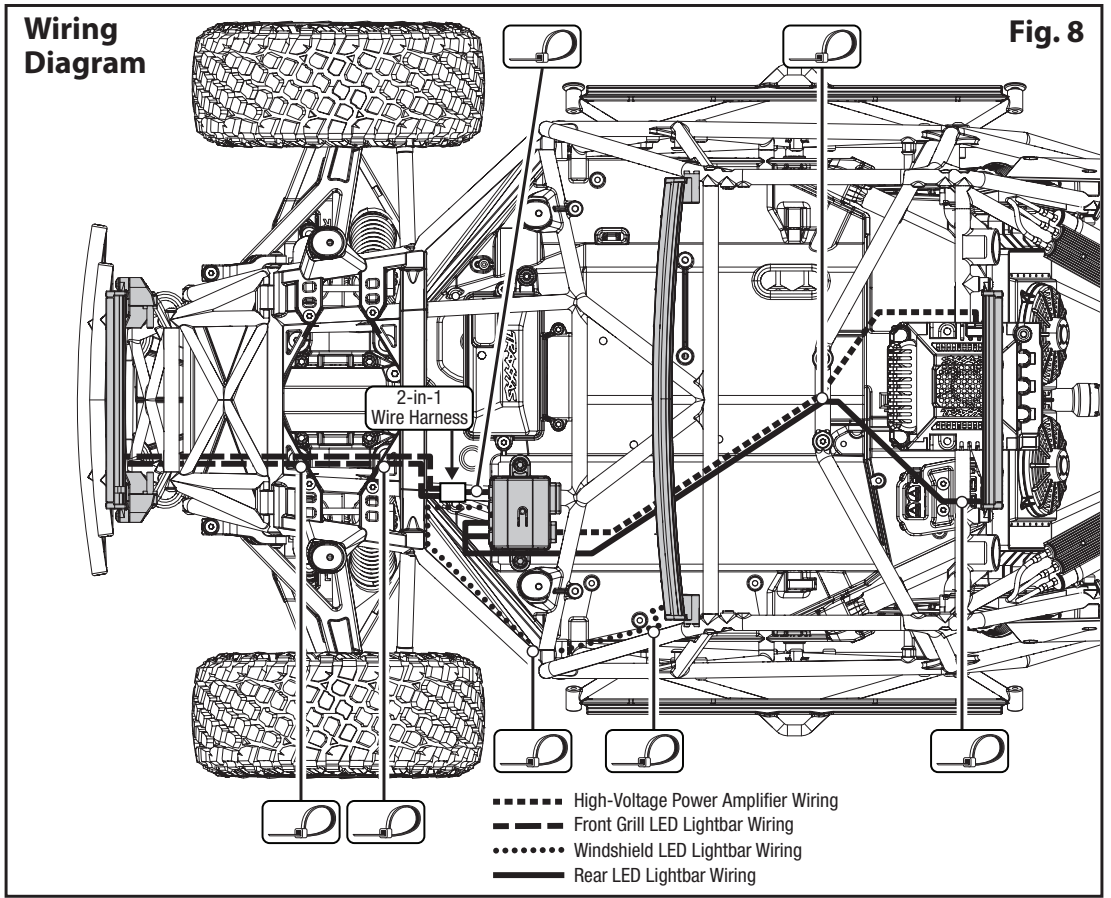

Fig. 8
1. Install the LED light kits; refer to the assembly diagram (Fig. 4) and wiring diagram (Fig. 8).
2. The front grill LED light bar mounts (B) install using the included hardware.
3. The front grill LED light bar(s) (C), windshield LED light bar (D), and rear LED light bar (E) install as assemblies using the included hardware.